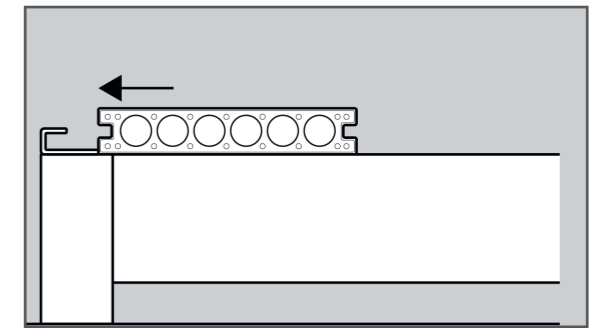

FIG. 2
- 2 Place the first **board** flat on the frame and slide into the **clips**. (fig. 2)